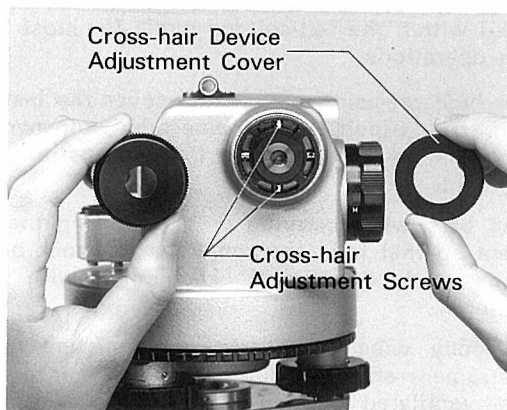

Fig. 16
The four adjustment screws are to be found under the cross-hair adjustment device cover, when it is unscrewed. (See Fig. 16) When shifting the cross-hair reticule glass, first loosen the adjustment screw in the direction in which the horizontal cross-hair line must be shifted and then tighten the adjustment screw, on the opposite side, by an equal amount. Thus, if the bottom adjustment screw is revolved a half turn in the counter-clockwise direction to loosen, then revolve the top adjustment screw by the same half turn in the clockwise direction to tighten, which will leave the tensions of the adjustment screws unchanged.
- (1) Set the instrument up on the tripod and carefully center the bubble of the circular level with the three leveling screws.
- (2) Sight on a suitable target about 40 meters from the instrument or place a suitable mark on the leveling rod, if the former is unavailable.
- (3) Coincide the horizontal cross-hair line with the mark so that the mark is aligned flush with the line.
- (4) Next, revolve the fine horizontal knob so that the horizontal cross-hair line traces the mark
- (5) If the target mark is displaced from the horizontal cross-hair line as it is moved across the field of view, then adjustment is required in the cross-hair reticule glass.
- (6) Revolve the cross-hair adjustment device cover in the counter-clockwise direction and take it off, which will expose four fixing screws, in addition to four capstan adjustment screws. (See Fig. 16)